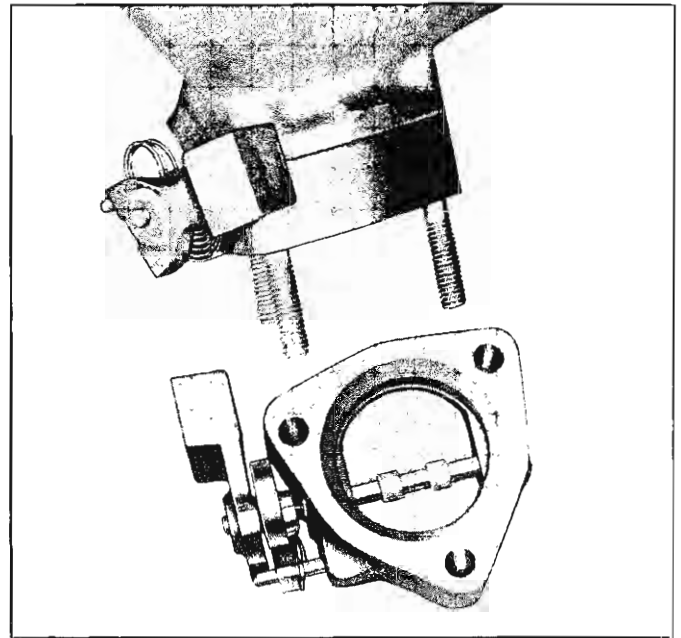

Fig. 156—Manifold Heat Valve
14. Remove exhaust cross-over pipe and manifold heat valve (fig. 156) from right hand exhaust manifold and lower exhaust pipe or pipes.